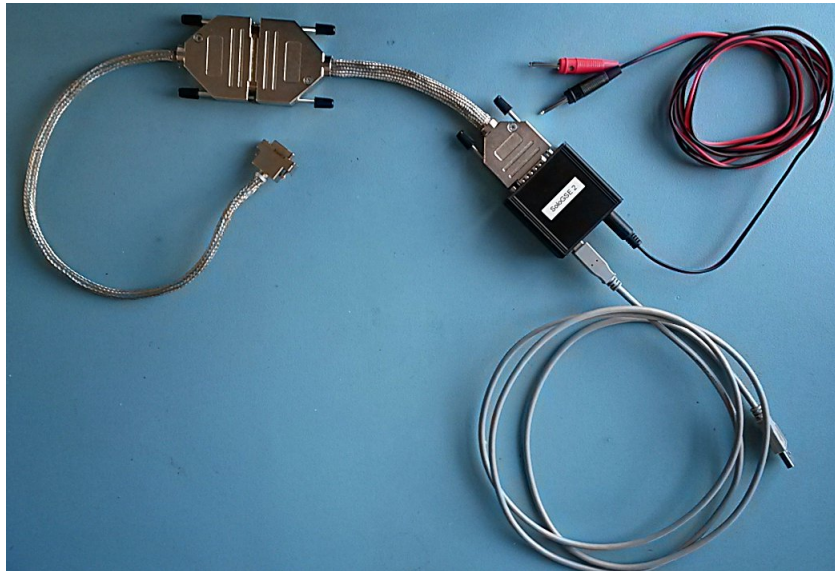
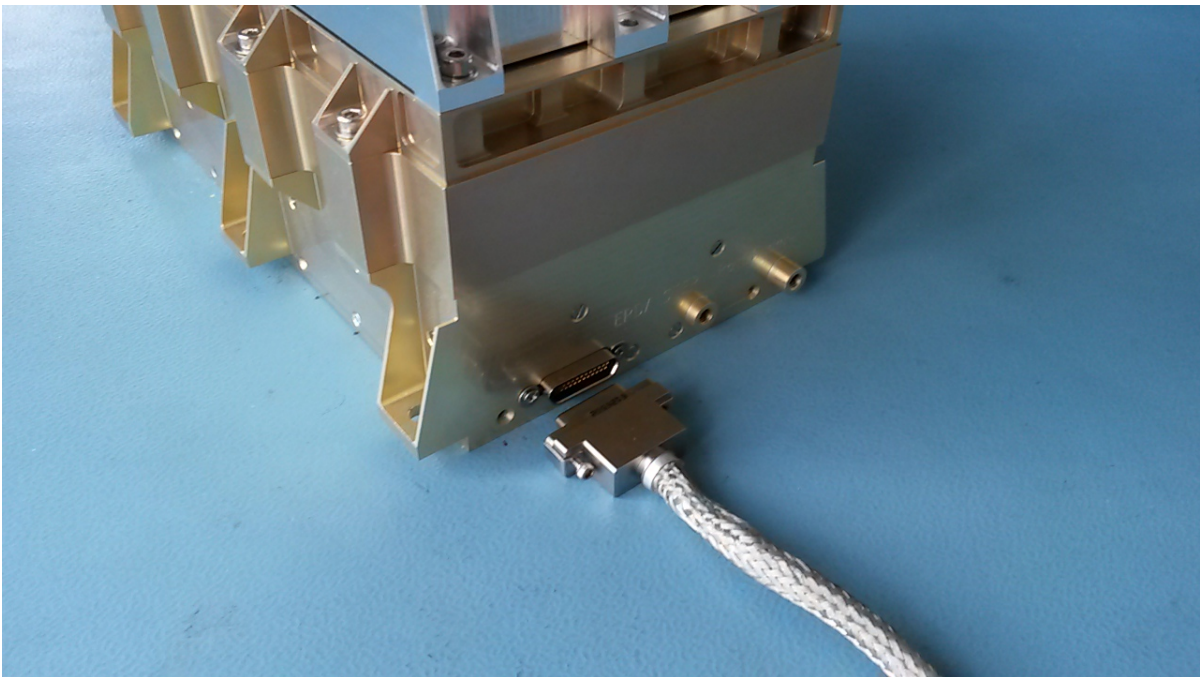

Figure 1: EGSE
Figure 2: STEP MDM25 connectors
- EGSE consisting of: (see figure 1)
To prepare the set-up for the functional tests, the EGSE needs to be assembled (see figure 1, 8) and connected to the unit (see figure 2, p. 10). To do so, obey the following steps: